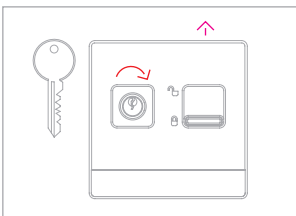

Fig. 3
- Fig. 3: Insert key, turn the key clockwise; lever pops-up automatically